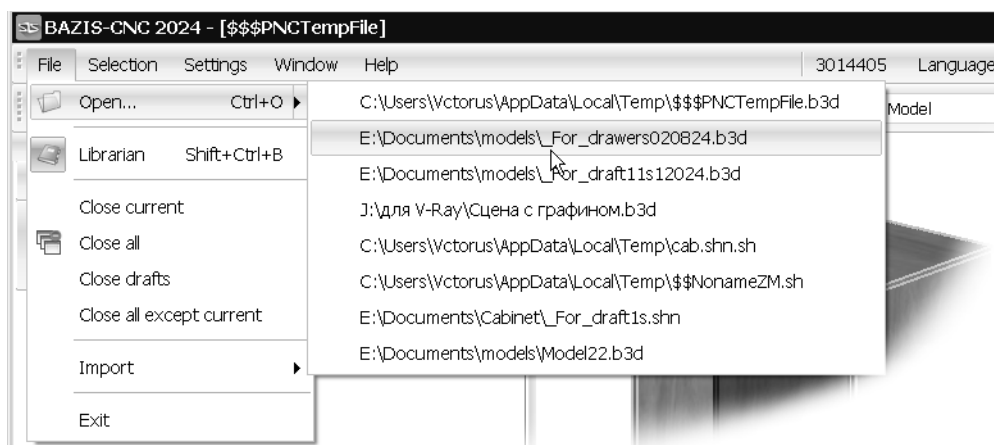

Рис. 2.
- ▼ Call **Open...** command (fig. 2).